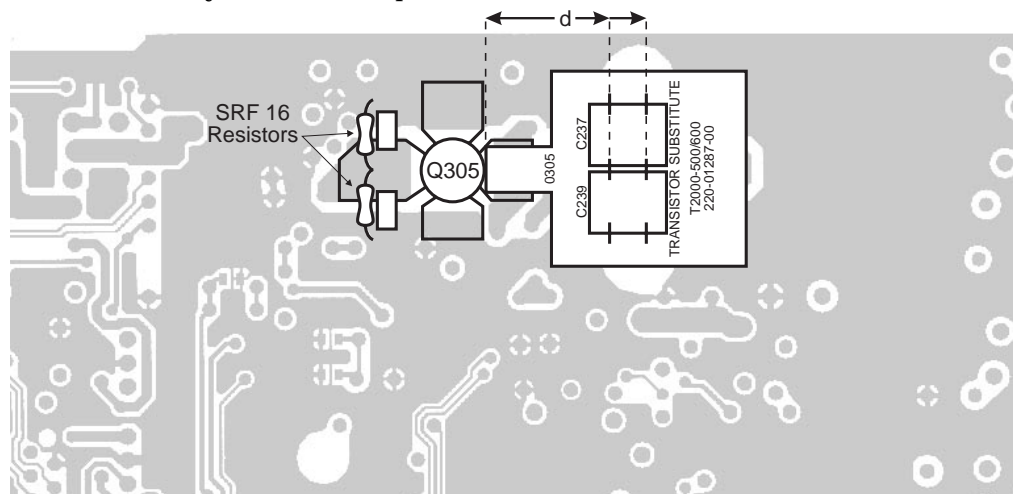

Figure 8.3.3 T2000-500/600 PA - Bottom Side
Refer to Figure 8.3.3.
**Note:** The distance 'd' shown in Figure 8.3.3 is measured from the edge of the transistor top cap to the centre of the capacitors.